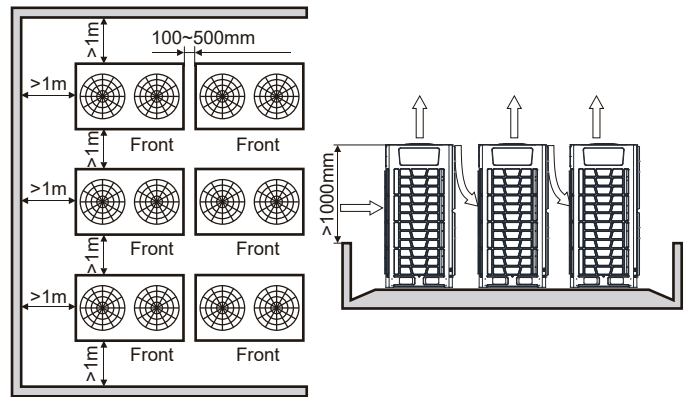

Fig. 3.14 More than 2 rows
- 5) When outdoor units are higher than surrounding barriers and they will be arranged in more than 2 rows, please see Fig. 3.14.